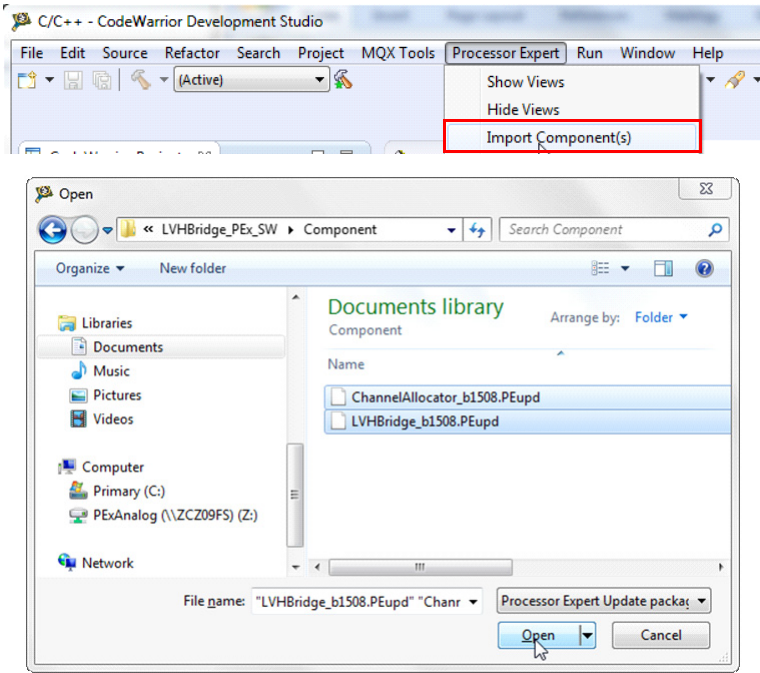

Figure 6. Import LVHBridge component
2. In the pop-up window, locate the component file (.PEupd) in the example project folder LVHBridge_PEx_SWComponent. Select LVHBridge_b1508.PEupd and ChannelAllocator_b1508.PEupd files then click **Open** (see Figure 6).